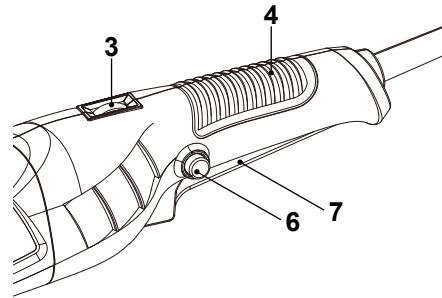

Fig. 10
- > Switch the product on by pressing the on/off switch (7) (Fig. 10).
- > Switch the product off by releasing the on/off switch (7) (Fig. 10).
- > Switch the product on by pressing the on/off switch (7) and hold it in position (Fig. 10).
- > Press the lock-on button (6) to lock the on/off switch (7) (Fig. 10).> Release both switches. The on/off switch (7) is now locked-on for continuous use.
- > Depress and release the on/off switch (7) to switch the product off.